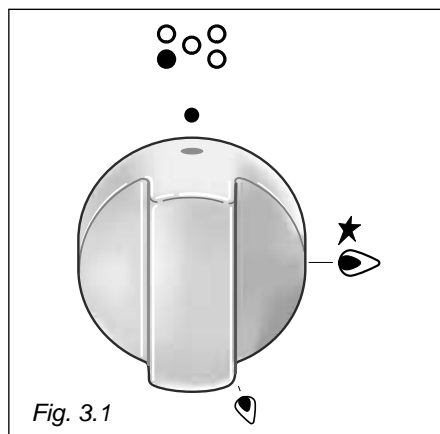
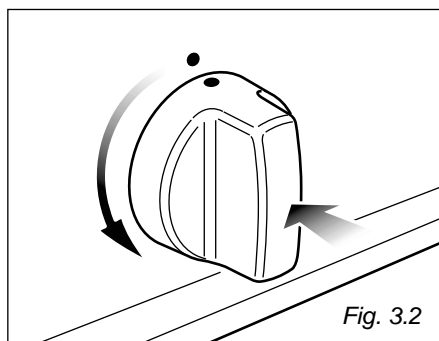

Fig. 3.1
Fig. 3.2
Each burner is controlled by a gas tap which opens and closes the gas supply. Line the control knob symbol up with the indicator on the control panel (fig. 3.1) to obtain:
- 1) Lightly press and turn the knob anti-clockwise (fig. 3.2) and position the knob symbol ★🔥 to the indicator printed on the control panel (fig. 3.1).